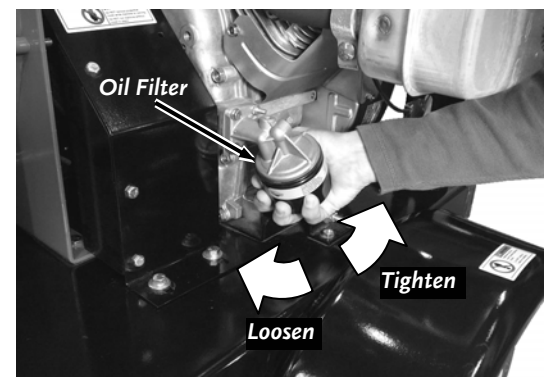

Figure 24
3. Using an Oil Filter Wrench, or grasping the oil filter firmly with your hand, unscrew the oil filter counterclockwise from the engine (**Figure 24**). **BE SURE THAT THE OLD FILTER GASKET COMES OFF WITH THE FILTER.**